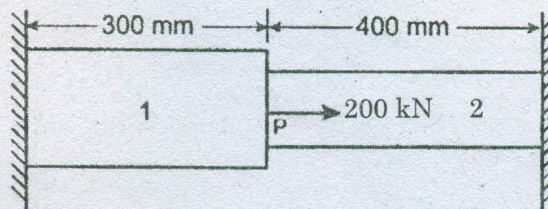

Fig.12(a)
12. (a) Consider a bar as shown in Fig 12(a). An axial load of 200 kN is applied at point p. Take  $A_1 = 2400 \text{ mm}^2$ ,  $E_1 = 70 \times 10^9 \text{ N/mm}^2$ ,  $A_2 = 600 \text{ mm}^2$ ,  $E_2 = 200 \times 10^9 \text{ N/mm}^2$ . Calculate the following, (i) The nodal displacement at point p, (ii) Stress in each element (iii) Reaction force. (16)